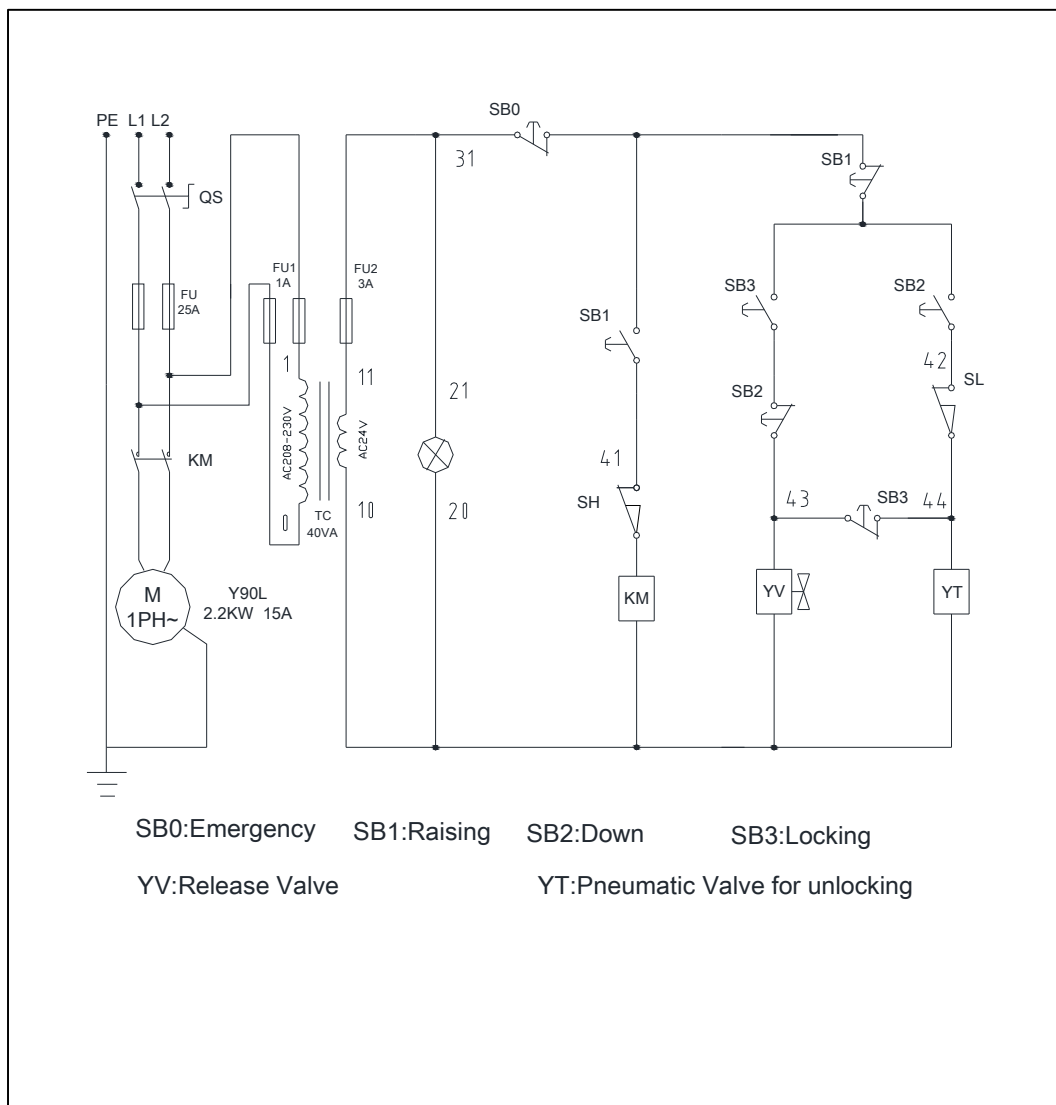
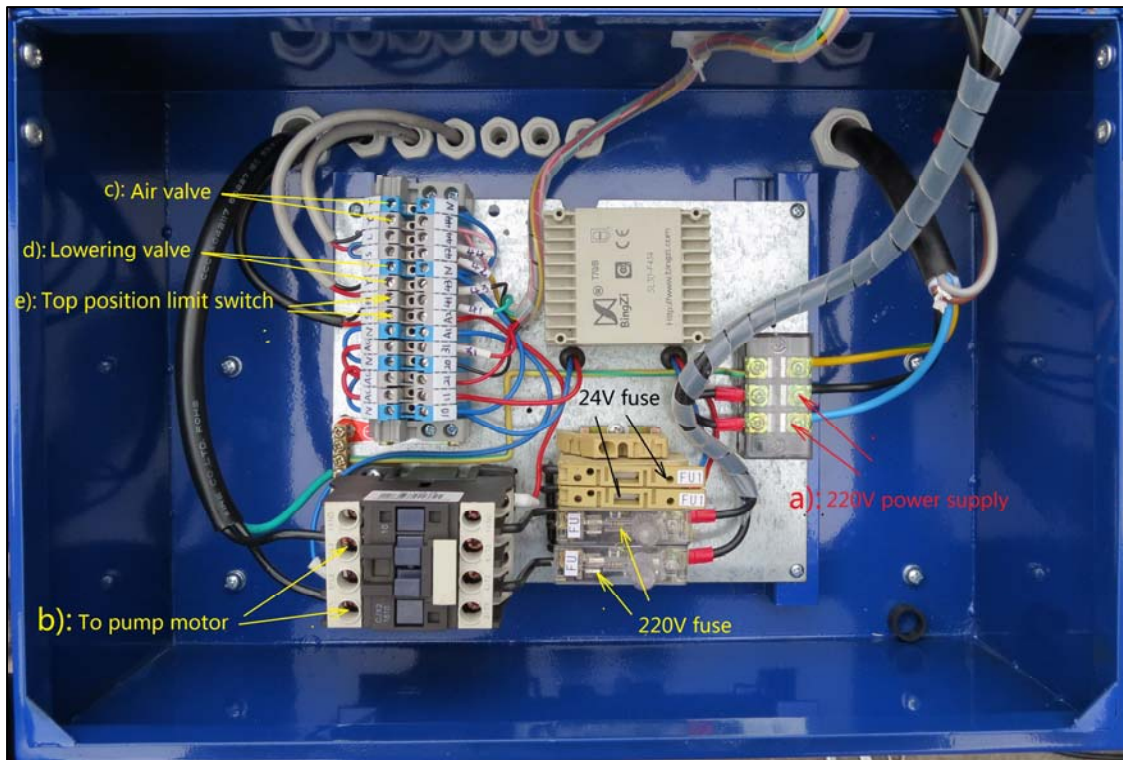

Fig. 14
Fig. 15
1. Connect the cables according to the diagram. (Fig.14) and photo (Fig. 15).
1. Have a certified electrician to run the 220V/60Hz single phase power supply to the control box (Fig.15). Be sure to size the wire for a 25 amp circuit.